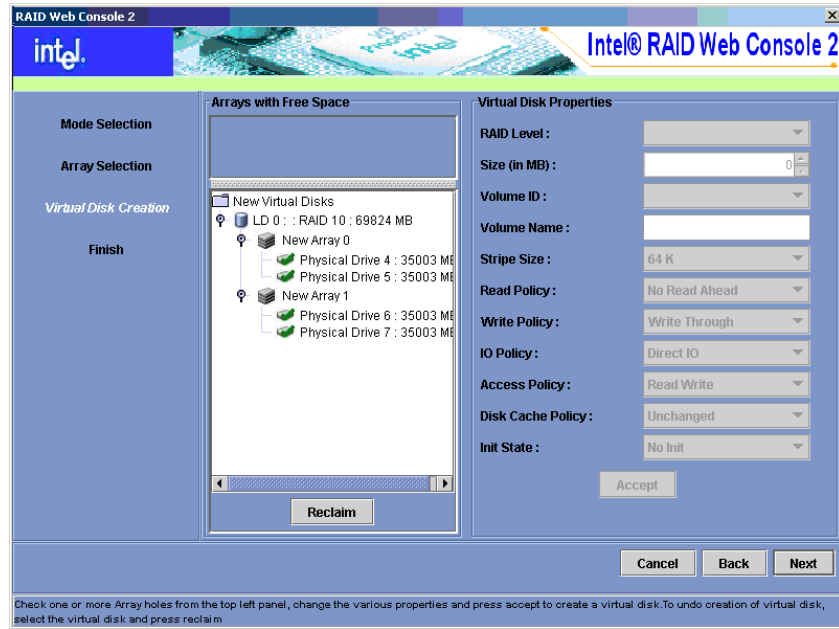

Figure 51. New Spanned Array
6. Change the virtual disk properties as needed, and then click **Accept** to accept the spanned array. The newly defined virtual disk is displayed, as shown in Figure 51.